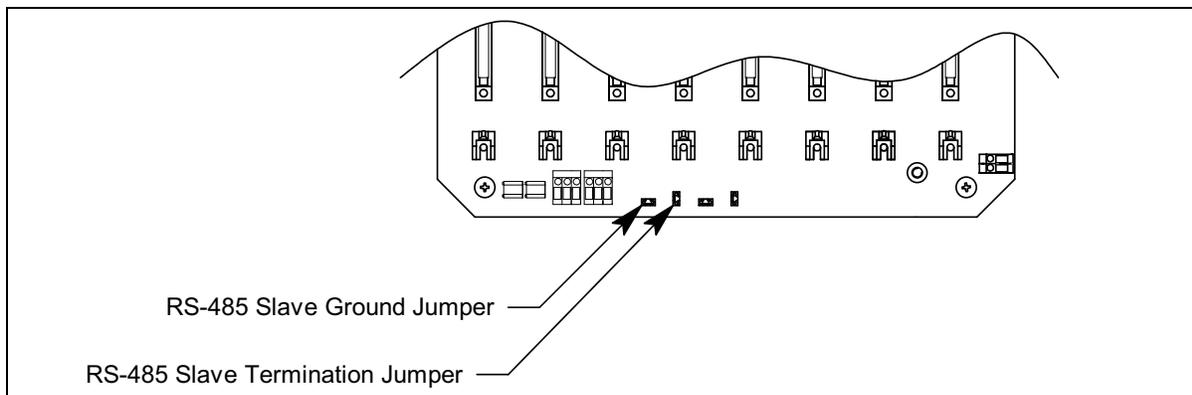
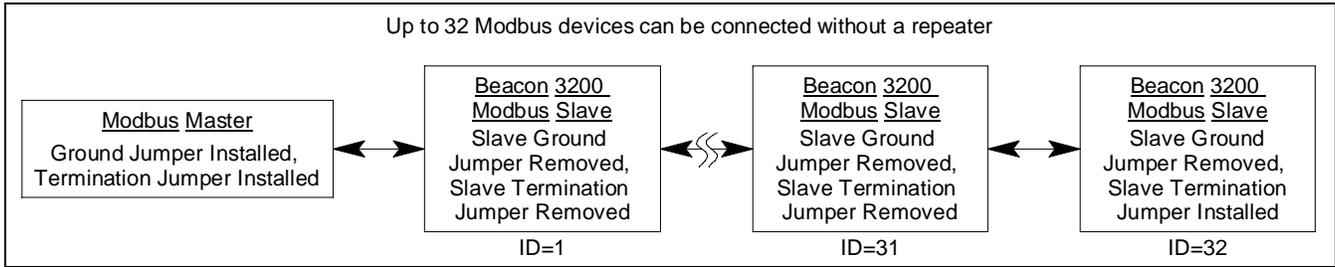

Figure 23: Modbus Slave Jumper Locations
Figure 24: Jumper Configuration (Beacon 3200 as Modbus Slave)
2. Configure the ground and termination jumpers (locations in Figure 23) as shown in Figure 24.